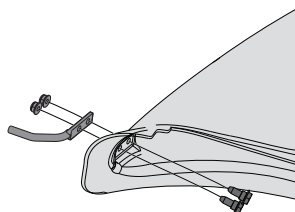

Figure 14
1. From the inside of the boot, put the two hex head screws (738-1225) through the holes at the bottom front of the boot. See Figure 14.
2. Put the mounting rod (747-06043) in place over the hex head screws. Make sure the tip of the rod is facing out from the boot. See Figure 14.
3. Begin threading the two flange lock nuts (712-04064) onto the hex head screws. See Figure 14.